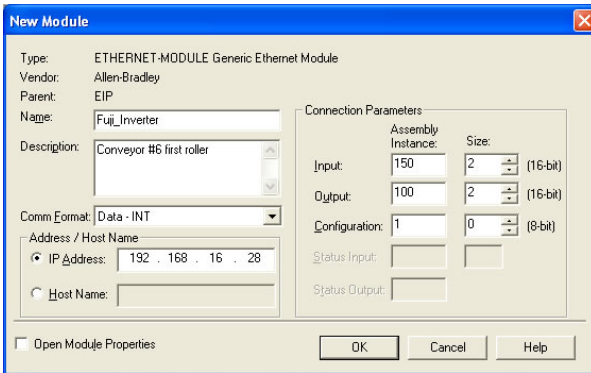

Figure 81: Interface Card Module Properties
- The module properties dialog box will open (refer to Figure 81). Enter a Name and Description which will allow easy identification of the inverter on the network (the tags created in RSLogix 5000 will be derived from this Name). Because all inverter data is stored as 16-bit function code values, change the “Comm Format” selection to “Data-INT”. Enter the IP address of the targeted interface card.